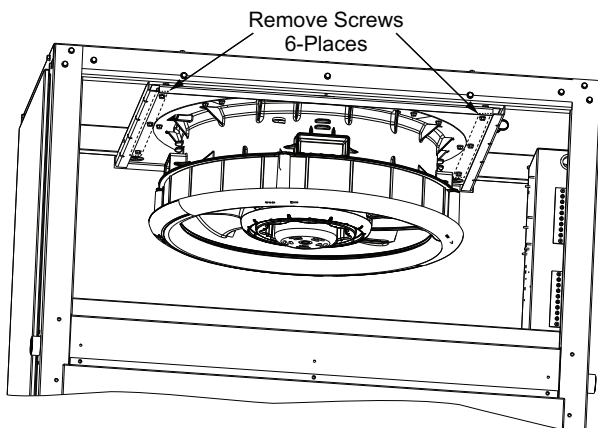

Fig. 31 — Remove Screws from Fan Deck Assembly
- Remove six screws from the fan deck. See Fig. 31.